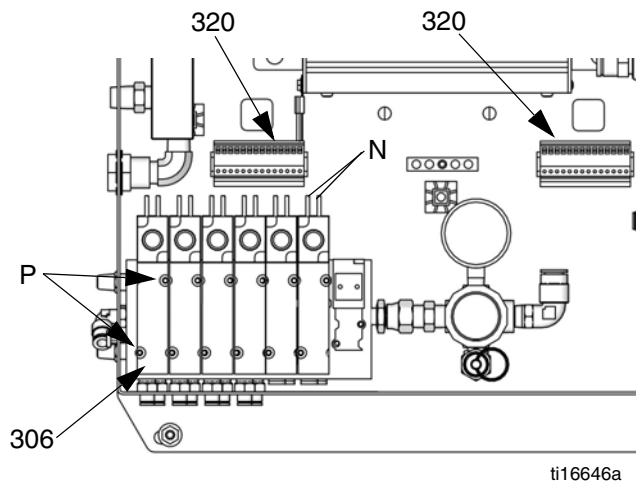

FIG. 3. Replace a Single Solenoid
3. Disconnect 2 solenoid wires (N) from harness (320). See FIG. 3.
4. Unscrew 2 screws (P) and remove solenoid (306).
5. Install new solenoid (306).
6. Connect 2 wires (N) to harness (320). Solenoid wires are polarized (red+, black-). Refer to System Electrical Schematics, pages 66-69.